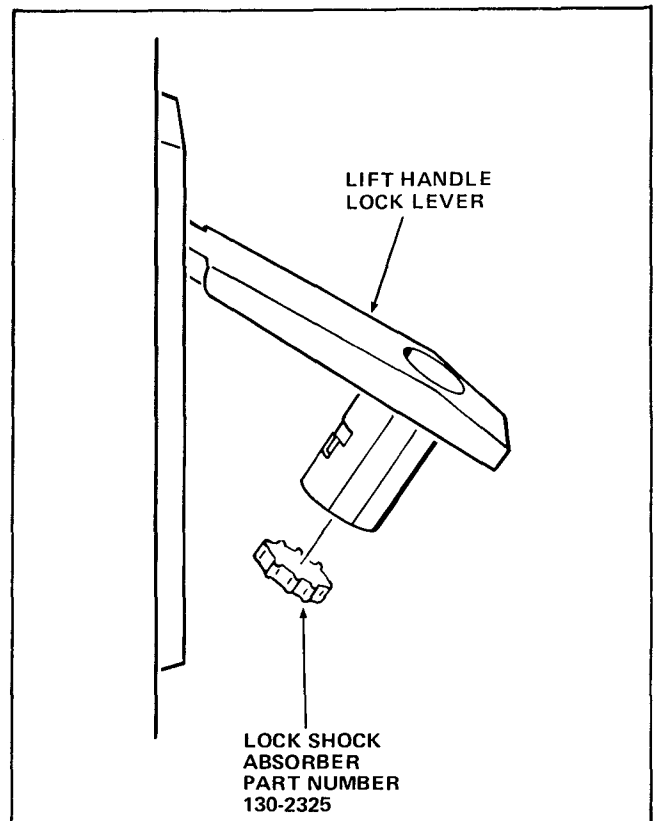

FIGURE 5
3. If the Lock to be used is a short-cylinder Lock, pull the Lift Handle Lock Lever out of the Lever Base and install Lock Shock Absorber, part number 130-2325, included in the Kit. Push the Shock Absorber into the back of the Lock Lever lock retaining cylinder. See Figure 5. The Shock Absorber fills the space between the short-type Lock Cylinder and the Door Latch Catch when the Lock Lever is in the locked position.